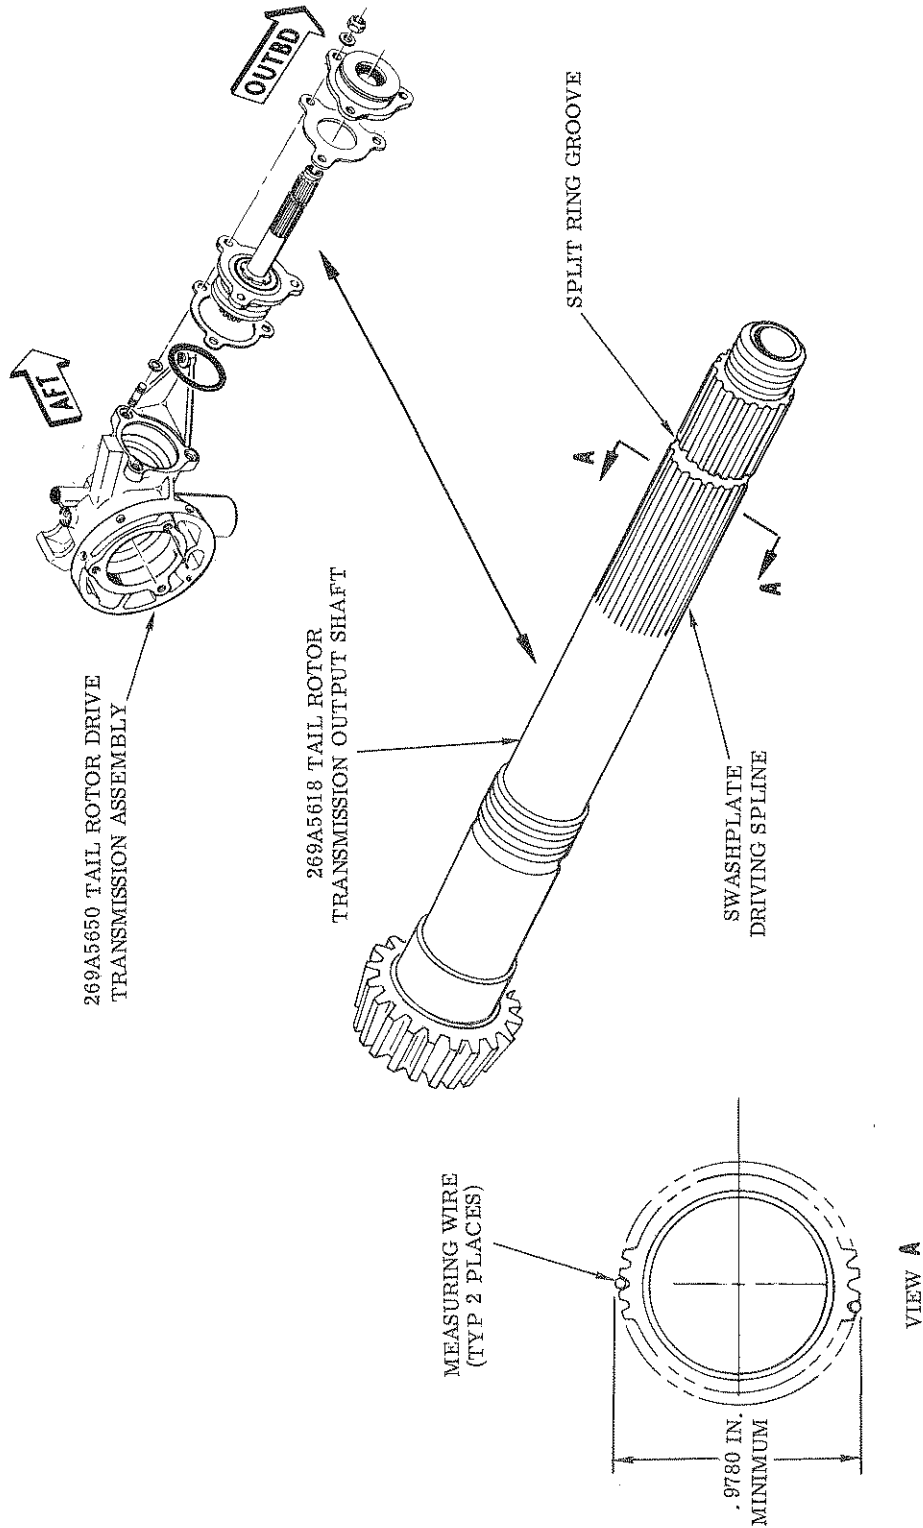

FIGURE 1. WEAR TOLERANCE- OUTPUT SHAFT, TAIL ROTOR TRANSMISSION
(1) Insert two 0.0960 inch diameter measuring wires nearly opposite each other in tooth spaces between teeth of the swashplate driving spline inboard of the split ring groove, as shown in Figure 1.